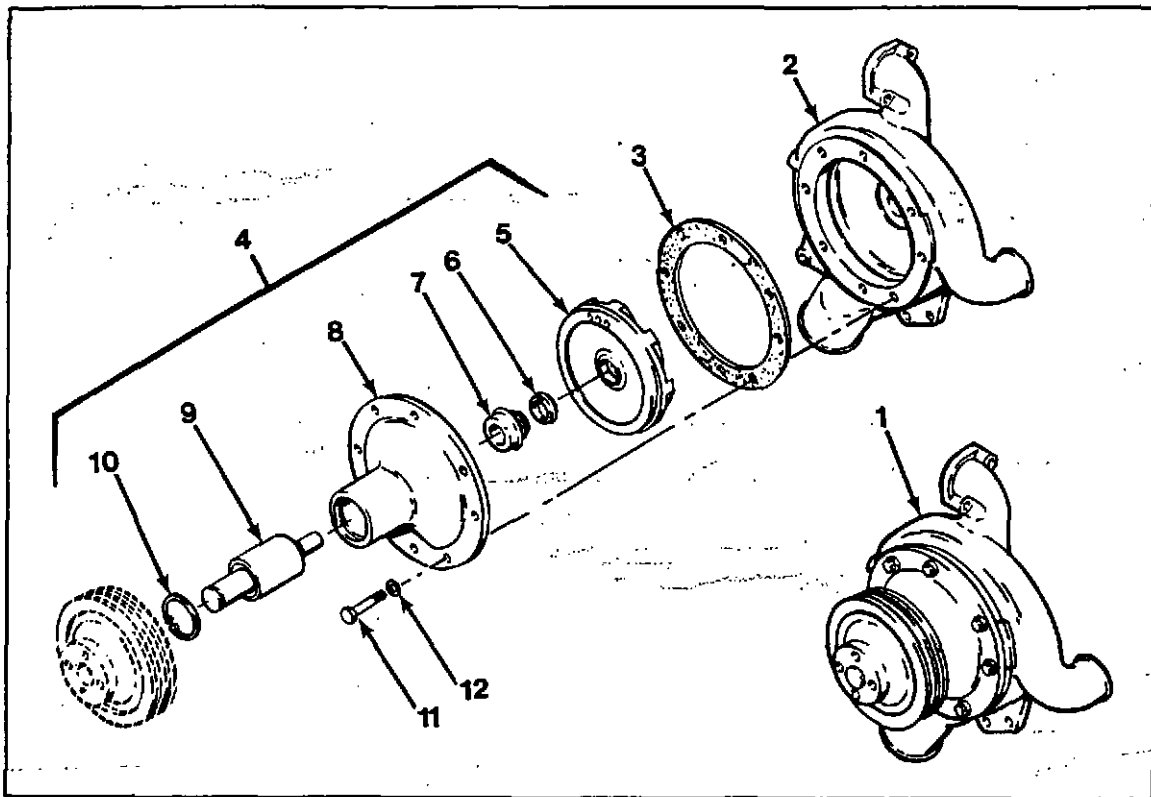

Figure 4. Water Pump Assembly
1. DISASSEMBLY: (See Figure 4)
A. Remove screws (11) and washers (12) from housing flange.
B. Remove housing assembly (4) from body (2). Remove gasket (3) and discard.
D. Remove snap ring (10) from housing assembly (4).